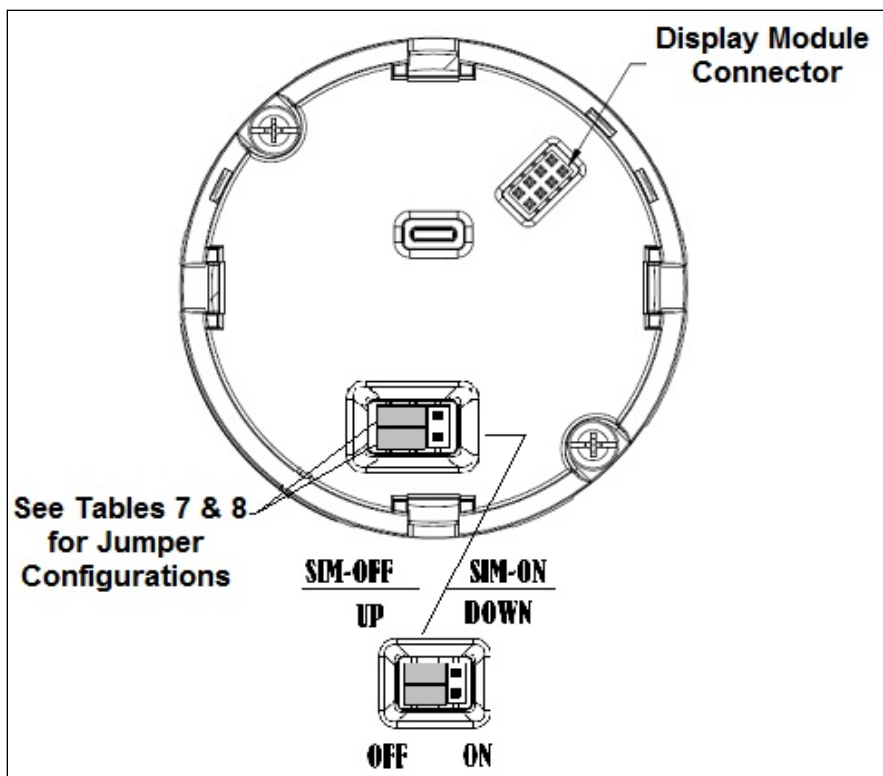

Figure 13 – Locating the Failsafe and Write Protect Jumpers
1. Connect a current meter or voltmeter as shown in Figure 13 to monitor the PV output of the Transmitter.
The following procedure outlines the steps for positioning the write protect and failsafe jumpers on the electronics module. See Figure 13 for the locations of the failsafe and write protect jumpers.
5. Set the Failsafe Jumper (top jumper) to the desired position (UP or DOWN). See Table 13 and Figure 13 for jumper positioning.